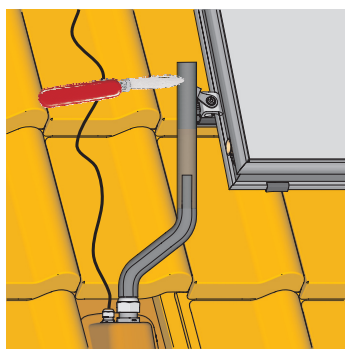

Fig. 3-35 Work step 13
13. Cut the enclosed UV resistant heat insulation pipes to the required length (Fig 3-35).